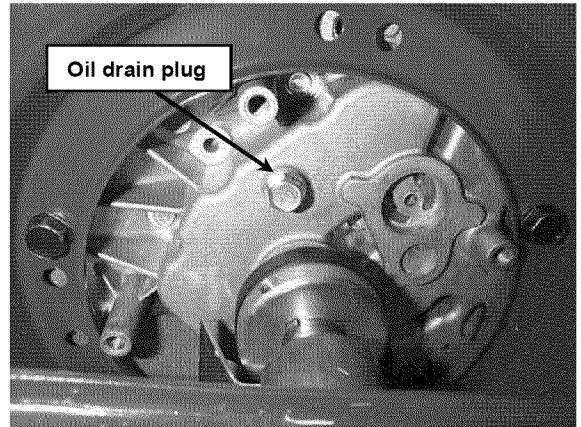

FIGURE 3.2
3.2.2. BOTTOM DRAIN PLUG. An oil drain plug is located on the bottom of the engine forward of the crankshaft. See Figure 3.2. Gain access to the plug by raising the front of the mower. Remove plug and drain oil into pan. Torque drain plug to 180-185 in-lb.